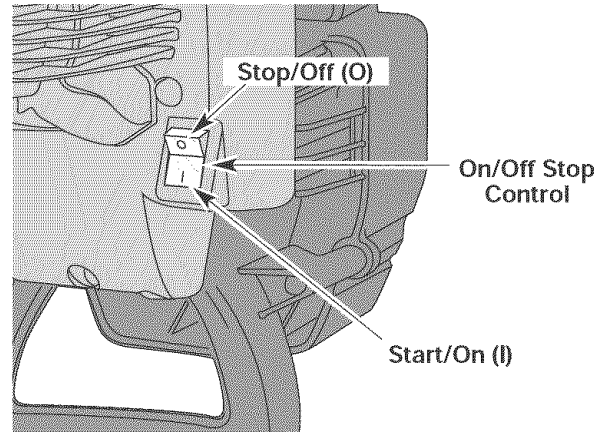

Fig. 6
2. Make sure the On/Off Stop Control in the ON (I) position (Fig. 6).